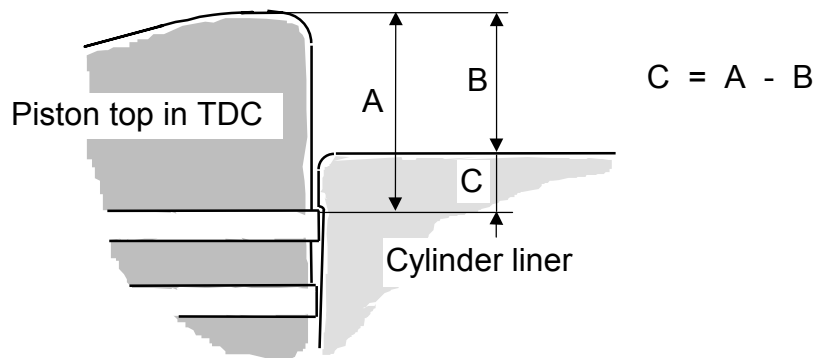

Fig. 2 Piston top in TDC
1. Locate the wear ridge (TDC of the top piston ring) visually or by measuring. See *dimension C, Figure 2*.